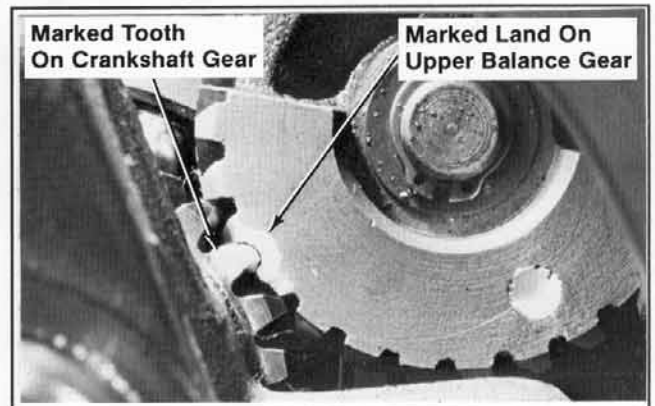

Figure 12. Aligning Crankshaft Gear And Upper Balance Gear.
2. Lubricate the rear bearing surface of crankshaft. Insert the PTO end of crankshaft through the rear bearing. Align the twelfth (12th) tooth marked on crankshaft gear with the seventh (7th) land marked on upper balance gear. Refer to Figure 12.